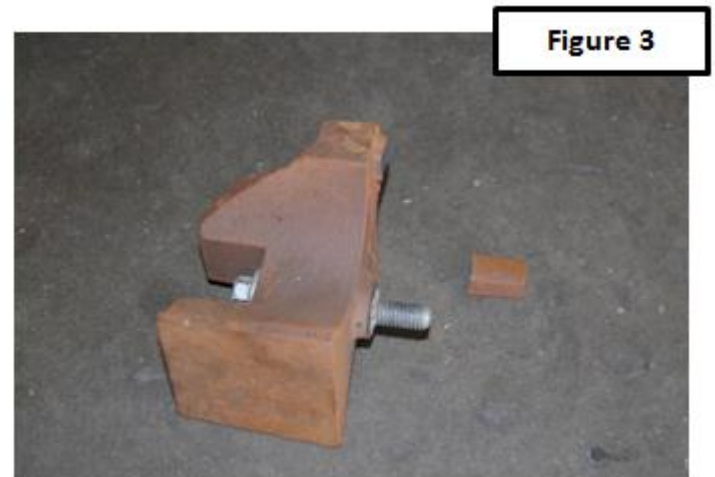

Figure 3
9. The rear axle counterweights will require modification to be reinstalled. Cut off the protruding lug. (See figure 3)